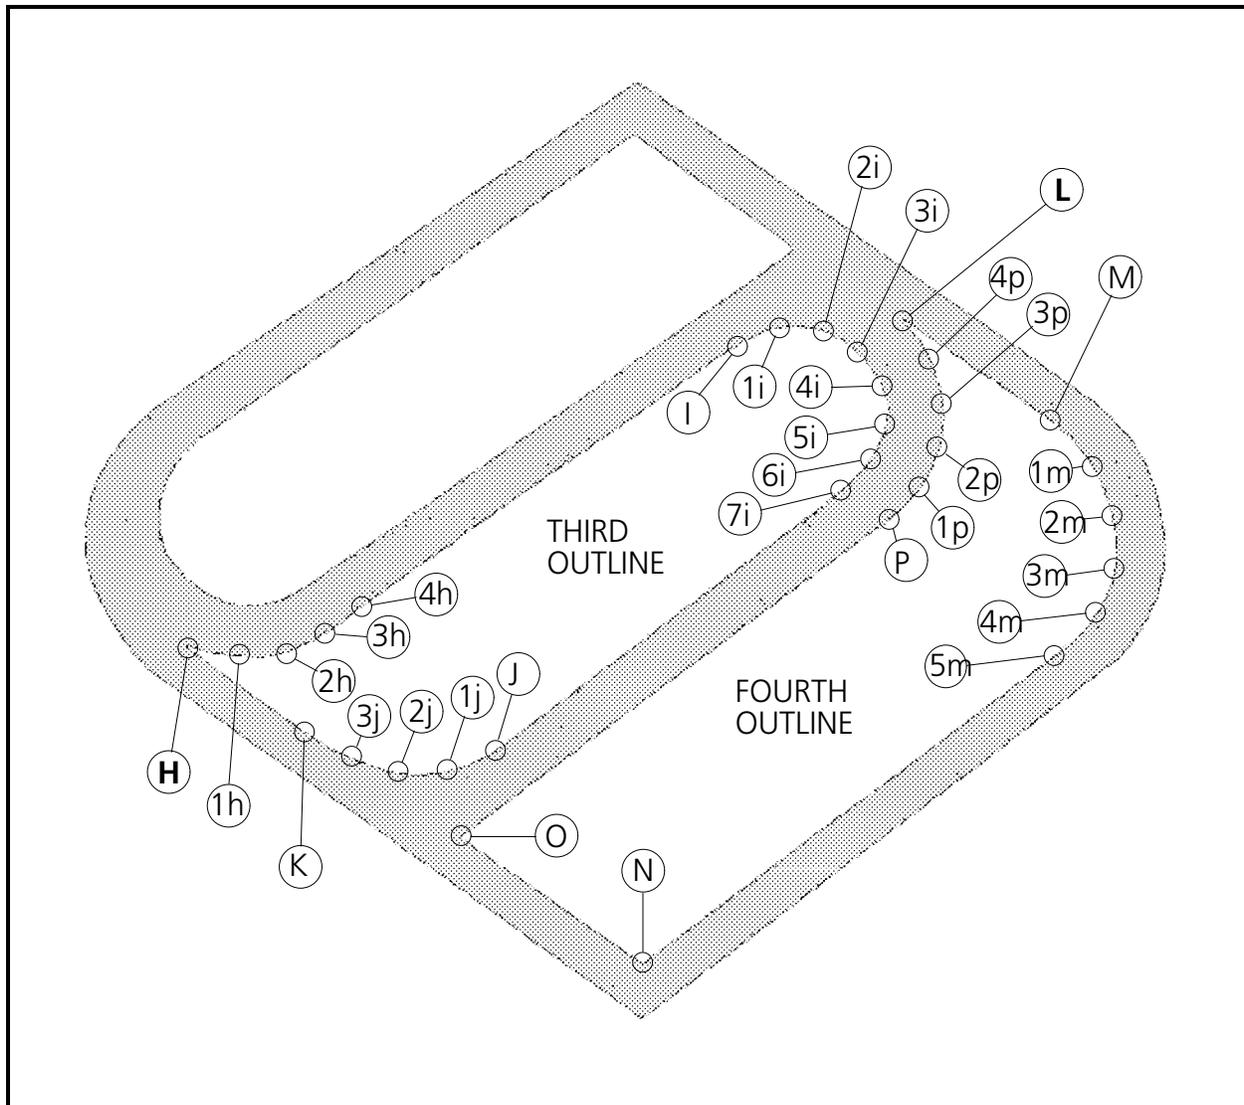

Figure 6-85
1. Continue to follow the points shown in Figure 6-85 in their alpha-numeric order. Enter the Mk1 from H through to the last Mk4 at location 4p near the top point of the lower section of the logo. Enter Mk1s at the capital letter points defining lines, and Mk4s at the numbers associated with lower class letters defining arcs.